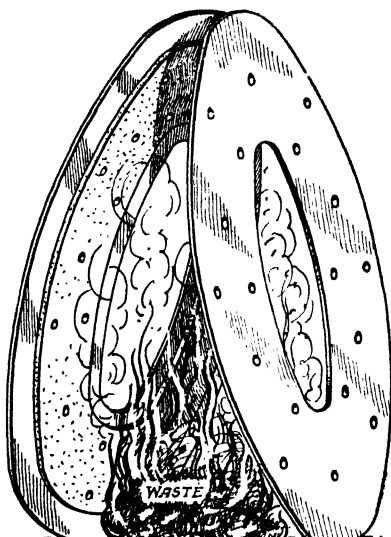

Fig. 71. Burning Oil Off Clutch Discs
**Oily Clutches.** The dry clutches with alternate discs covered with a woven fabric of asbestos and brass or with copper wire give considerable trouble from slipping, owing to the presence of grease or to the glazing of the surfaces. When grease is the cause, the clutch is disassembled and washed in gasoline. One shop takes the plates and piles them in pairs and then sets fire to pieces of oil-soaked waste, shown in Fig. 71, in order to completely burn out all the grease. The surface is then roughened up with coarse emery cloth and chalked, after which the clutch is again assembled. The chalk is for the purpose of soaking up the grease and of giving a fairly harsh engagement.